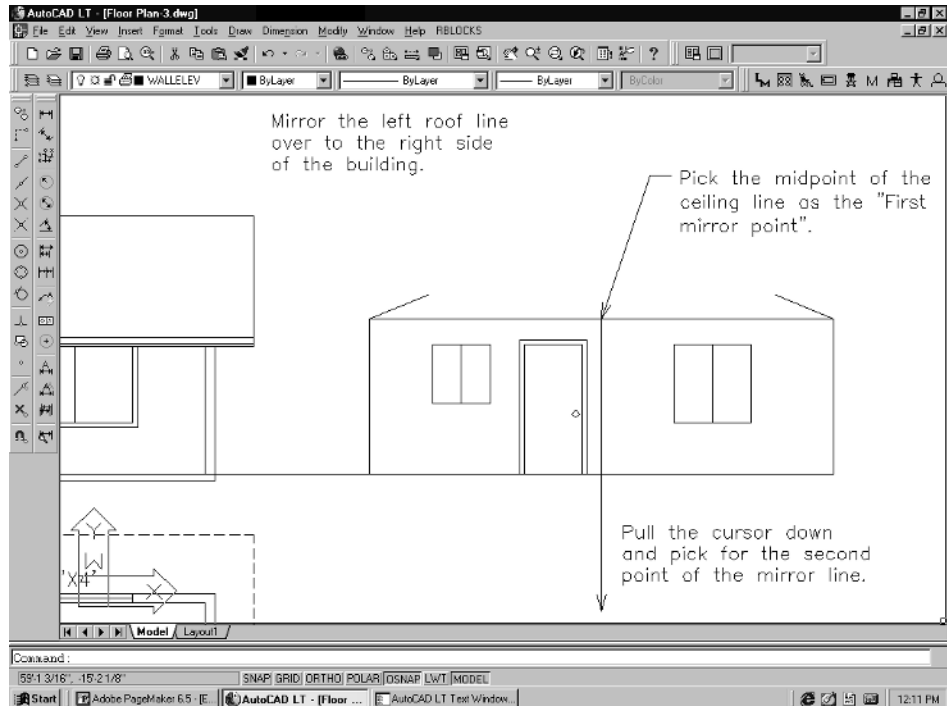

Figure 4-32
11. Next, mirror the left roof line over to the right side. Use the Mirror command to do this. When prompted to *Select objects*, pick the left roof line and **Enter**. At the *Specify first point of mirror line* prompt, pick the midpoint of the ceiling line. Then, at the *Specify second point of mirror line* prompt, pull your cursor down and pick. Hit **Enter** at the *Delete source objects?* [Yes/No] <N> prompt because you want to keep both roof lines. The roof line will mirror over as in Figure 4-32.